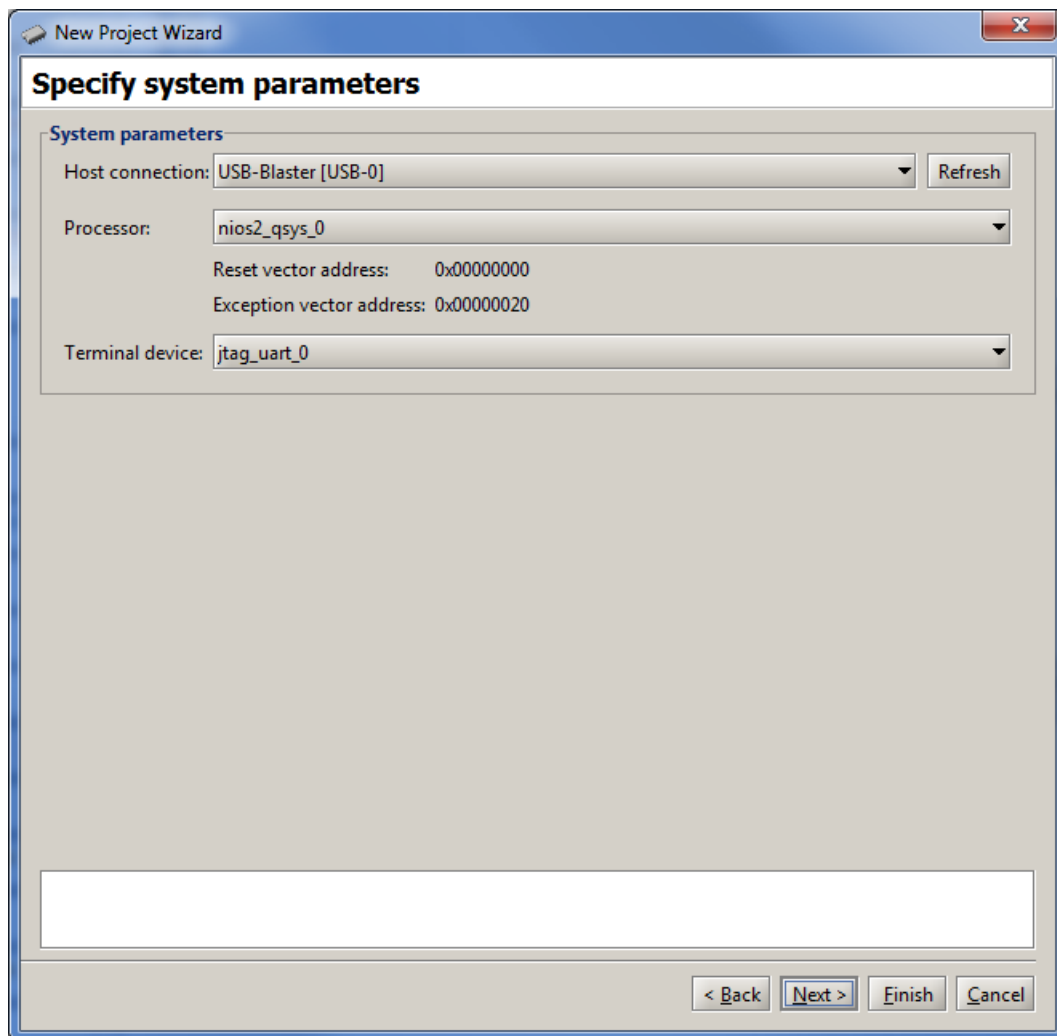

Figure 31. Specify the system parameters.
6. In the window in Figure 31, ensure that the Host Connection is set to *USB-Blaster*, the Processor is set to *nios2_processor* and the Terminal Device is set to *jtag_uart*. Click Next.